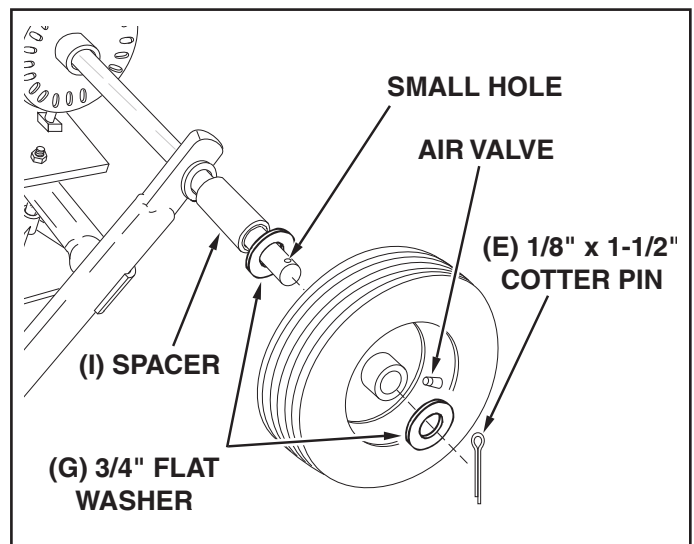

FIGURE 3
5. Assemble a spacer (I), a 3/4" flat washer (G), a wheel (air valve facing out) and another 3/4" flat washer (G) onto the end of the axle that has only the **small hole**. See figure 3.
6. Install a 1/8" x 1-1/2" cotter pin (E) into the hole in the axle. See figure 3.